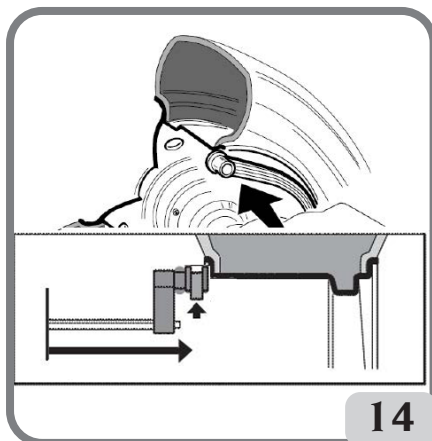
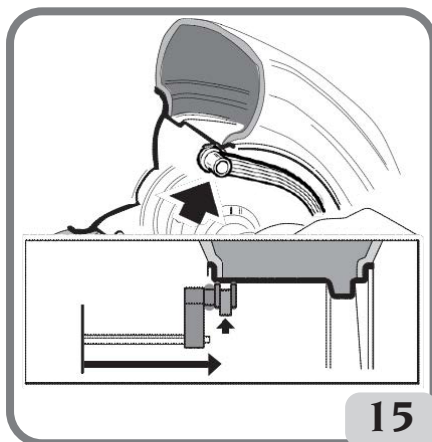

Fig. 14: Manual acquisition of the wheel distance in the ALU 2P Program Type
Fig. 15: Manual acquisition of the distance of the internal plane in the Program Type ALU 1P
application of the inner weight. In Alu 1P the centre of the notch in the holder is used as the reference for the centre line of the weight (fig. 15). In Alu 2P refer to the rim edge, since the inner weight is of the clip type (Fig. 14).
- Bring the end of the measuring arm level with the plane selected for applying the internal weight (Fig. 15 for ALU 1P, Fig. 14 for ALU 2P). In Alu 1P the centre of the notch in the holder is used as the reference for the centre line of the weight. In Alu 2P, the rim edge is taken as a reference, since the inner weight is of the conventional clip type.